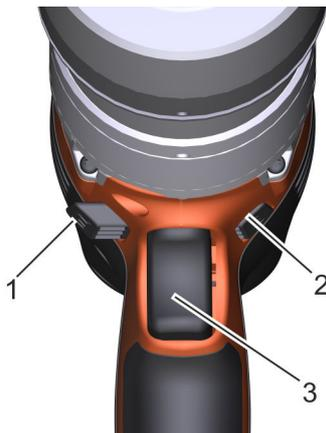

Fig. 33: Direction of rotation
To rotate in clockwise direction (CW), push the direction of rotation lever (Fig. 33/1) to the right.
To rotate in counterclockwise direction (CCW), push the direction of rotation lever (Fig. 33/2) to the left.
Press the trigger (Fig. 33/3) carefully.